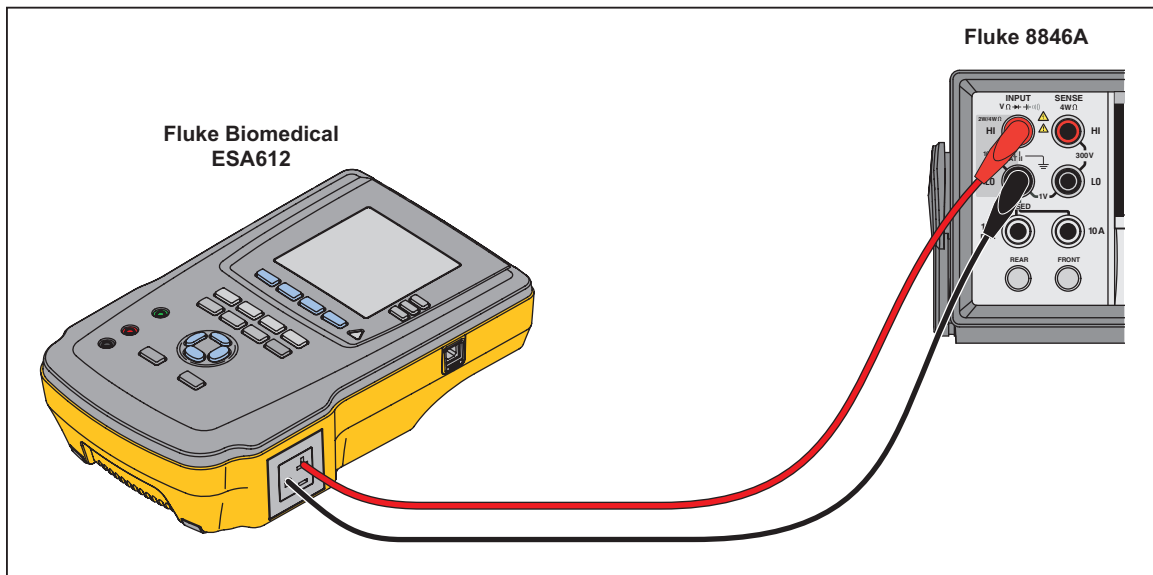

Figure 3-6. Insulation Resistance Verification Connections
1. Connect the EO ground to the Input (-) of the DMM and the EO Neutral to the Input (+) as shown in Figure 3-6. Set the DMM for 1000 Vac mode.